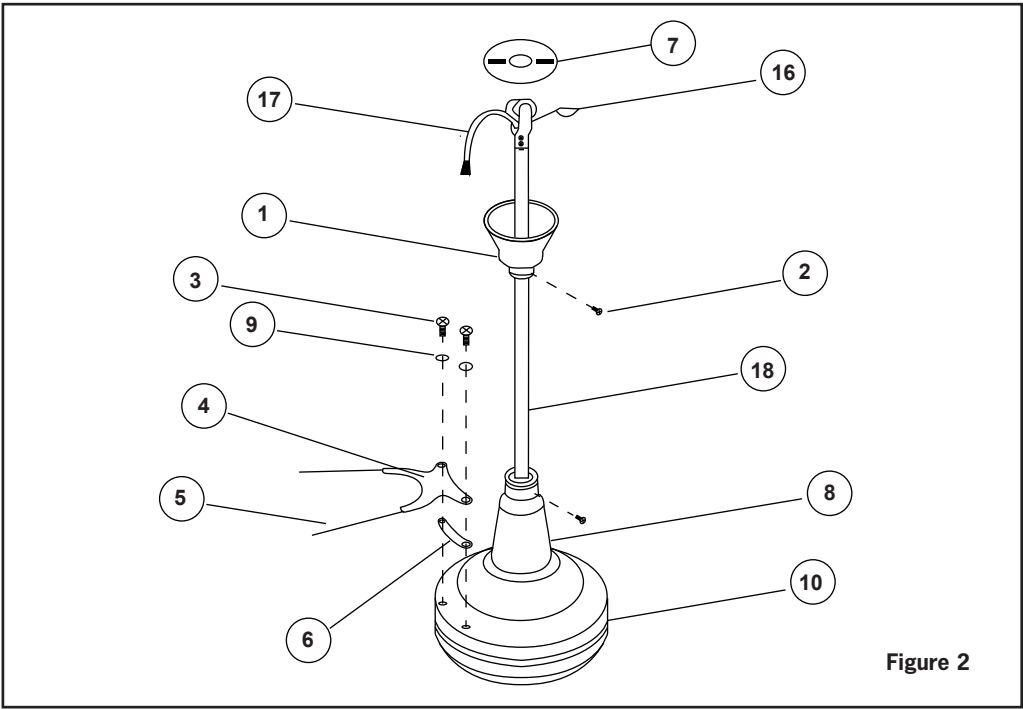

Figure 2
- Mount the fan blades onto the motor head with screws and spring washers (see Fig. 2 for details).